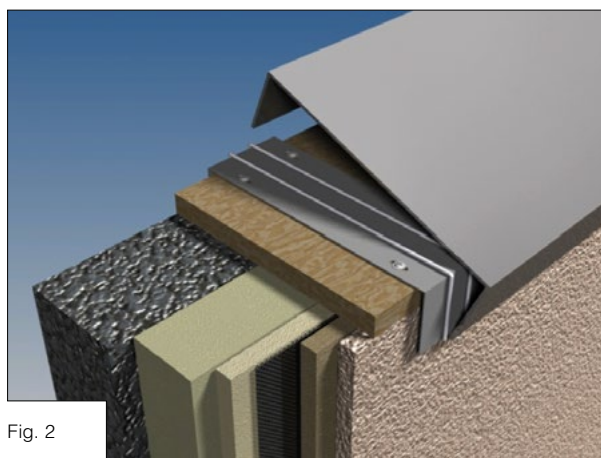

Fig. 2
2. Offer coping panel into place by hooking the front drip edge over the fixing brackets. Remove butyl tape liner, then rotate panel downwards until in its resting position. Press the coping panel down firmly over entire bracket to ensure full contact is made with the high performance butyl sealing strips. Fig. 2